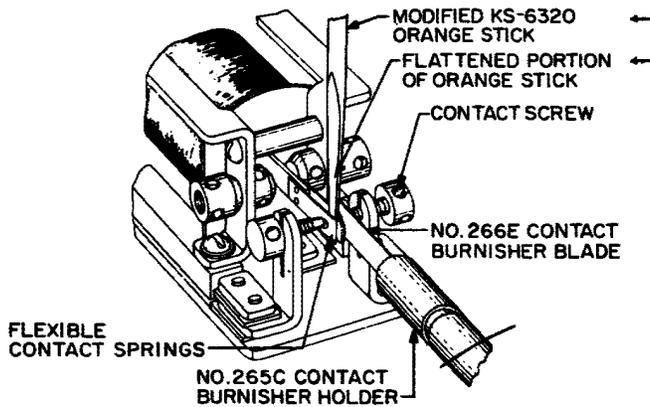
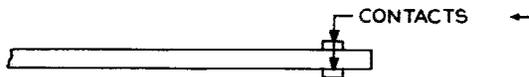
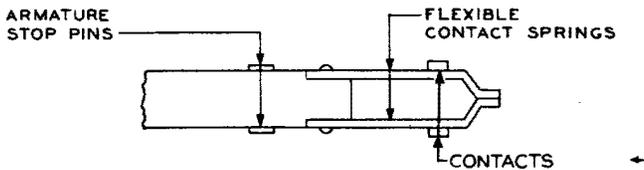

Fig. 16 - Method of Burnishing Contacts on 206-, 209-, 215-, 231-, 239-, 255-, and 280-type Relays
Fig. 17 - Solid Armature on 206- and Similar-type Relays
Fig. 18 - Standard Type of Flexible Contact Springs on 206- and Similar-type Relays
**4.12 206-, 209-, 215-, 231-, 239-, 255-, and 280-type Relays (Except Telegraph Transmission Relays) Equipped With Solid Armature Illustrated by Fig. 17 or Standard Type of Flexible Contact Springs Illustrated by Fig. 18:** Insert the No. 266E blade in the No. 265C contact burnisher holder with the wide end outward. Insert the contact burnisher blade horizontally between the armature and the stationary contact as indicated in Fig. 16. If necessary, back off the contact screws equally with the No. 340 adjusting key far enough to permit the burnisher blade to enter easily between the armature and the contact. If necessary, hold the armature or flexible contact against the contact burnisher with the KS-6320 orange stick (in the case of flexible